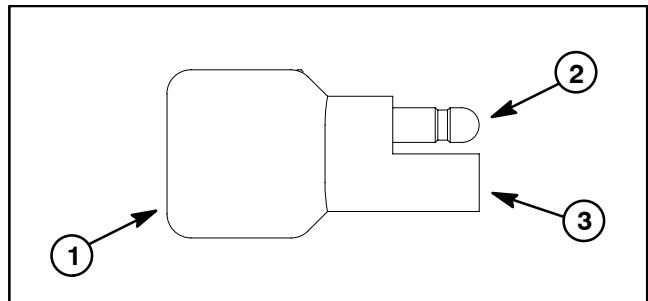

Figure 6
A diode assembly (Fig. 6) is used in the Topdresser 2500 trailer wire harness (see wire harness drawings in Chapter 6 – Foldout Diagrams). The diode is used for circuit protection from voltage spikes that occur when the hydraulic solenoid is de-energized.
3. Unplug the diode from the wire harness for testing. The diode (Fig. 6) can be tested using a digital multimeter (diode test or ohms setting) and the table to the right (Fig. 7).